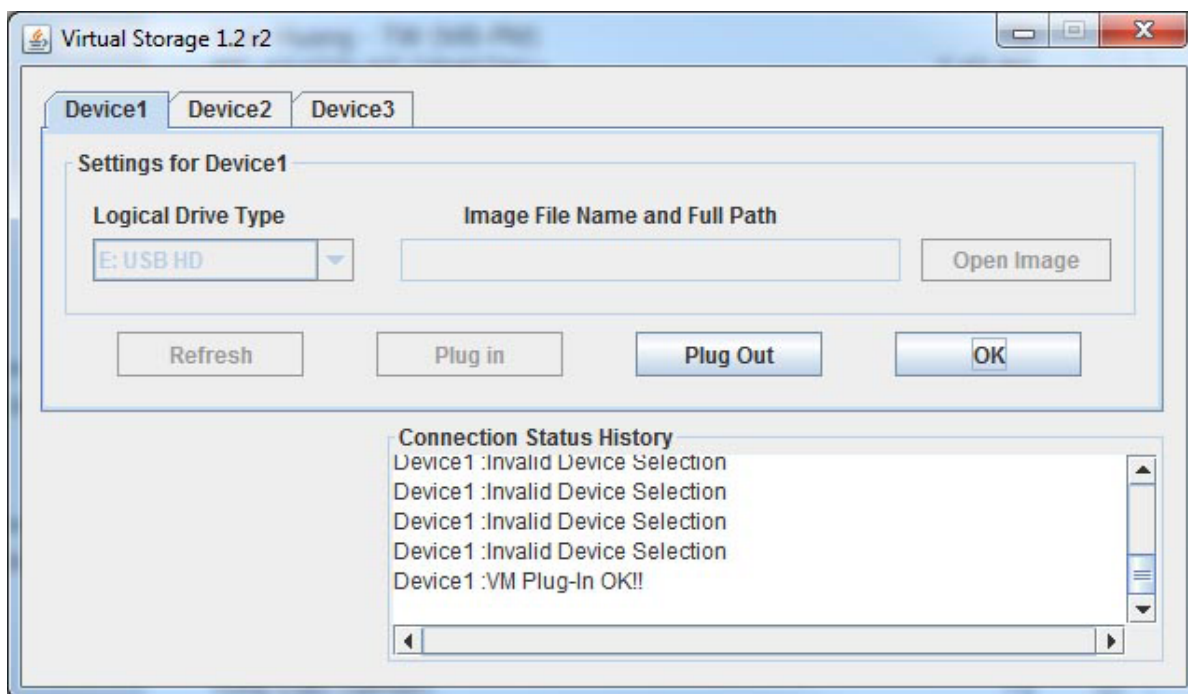

Figure A-9. Pressing the Plug In and OK Buttons for an USB Flash Drive File
7. After you have selected the USB flash drive file, press the Plug In button, then the OK button to exit the Virtual Storage window (Figure A-9).